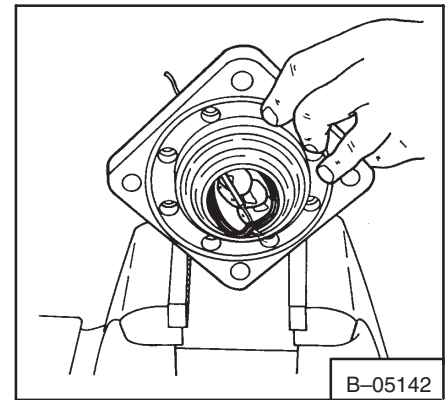

**Fig. 3-51** Removing Housing
20. Using a plastic hammer, tap the mounting flange from the housing (Fig. 3-51).